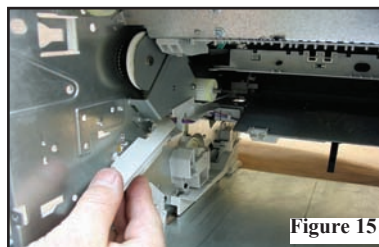
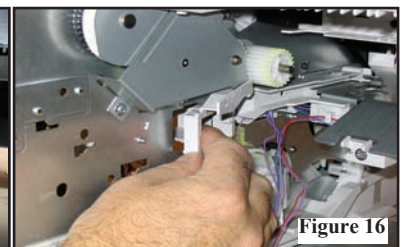

Figure 15 - The plastic power supply guide.
Figure 16 - The plastic wire guide.
11. Remove the plastic power supply guide (Figure 15) and the plastic wire guide (Figure 16).